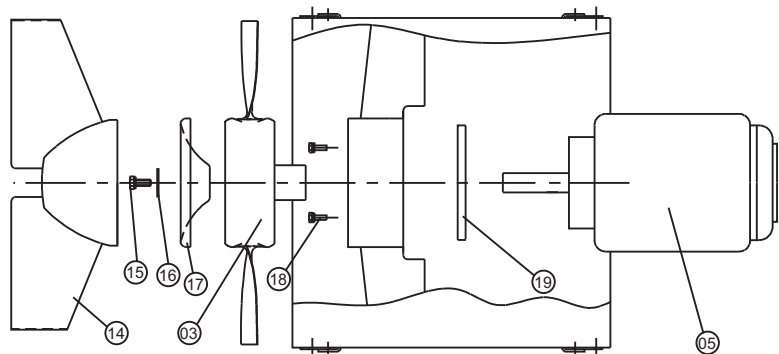

Figure 3. Dismounting and mounting of motor
- 4 For type AUC: Remove hub cover (figure 3, item 17).
- 5 Remove centre screw of impeller (figure 3, item 15).
- 6 Remove the centre disc of the hub cover (figure 3, item 16). Remove the hub cover (item 17).
- 8 Remove the four set screws (figure 3, item 18).
- 9 Dismount motor (figure 3, item 05). Dismount motor flange (item 19). Note the motor position before removal.
- 1 After service remount the motor as in (figure 3, item 05). See that the motor flange (item 19) is correctly positioned. Make sure the motor shaft is concentrically placed in the fan casing, before tightening the set screws (item 18).
- 3 Mount centre screw (figure 3, item 15), centre disc (item 16) and for AUC hub cover (item 17).
- 4 Type ARC: Mount the centre fairing (figure 3, item 14).